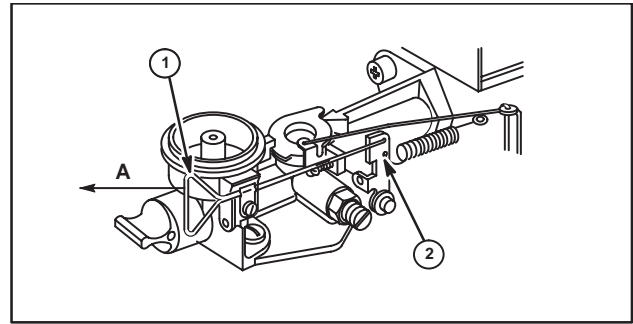

Fig. 14
The following drawings of governor controls (Figs. 14 through 49 and 61 through 136) are to show how governor links and springs are to be installed on carburetors. For governor control adjustments, see Section 5, GOVERNORS. Figs. 14–22 below show Models 60100, 61100, 80100, 81100 Horizontal Crankshaft. “A” indicates movement of cable or linkage to increase speed, “B” to decrease speed.
Pull out rod (1) to increase speed. Governor spring hooks in hole (2), Fig. 14.